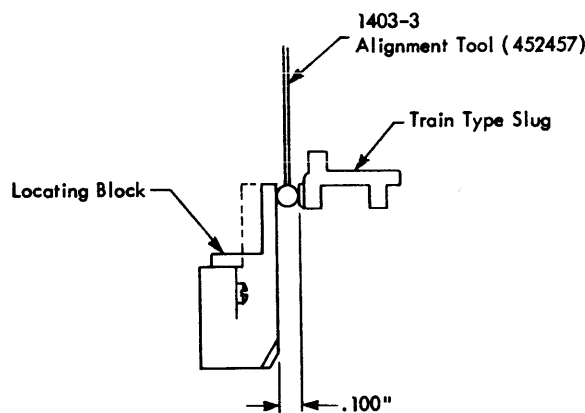

Figure 2. Train-to-Hammer Unit Positioning
10. To insure correct machine performance, it is most important to check the .100" spacing between the cartridge and the hammer unit on the Model 3 printer (Figure 2). This is a critical dimension. If it has shifted during shipment, print quality can be drastically affected. Check this adjustment carefully at both ends and readjust if necessary. (Refer to Figure 18 for other models.)